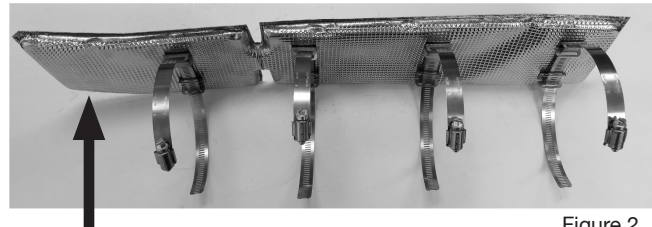

Figure 2
4. Open the band clamps and insert each one through two eyelets in the shield as shown, so that the clamps are on the bottom side of the shield "Figure 2". Use all four clamps.